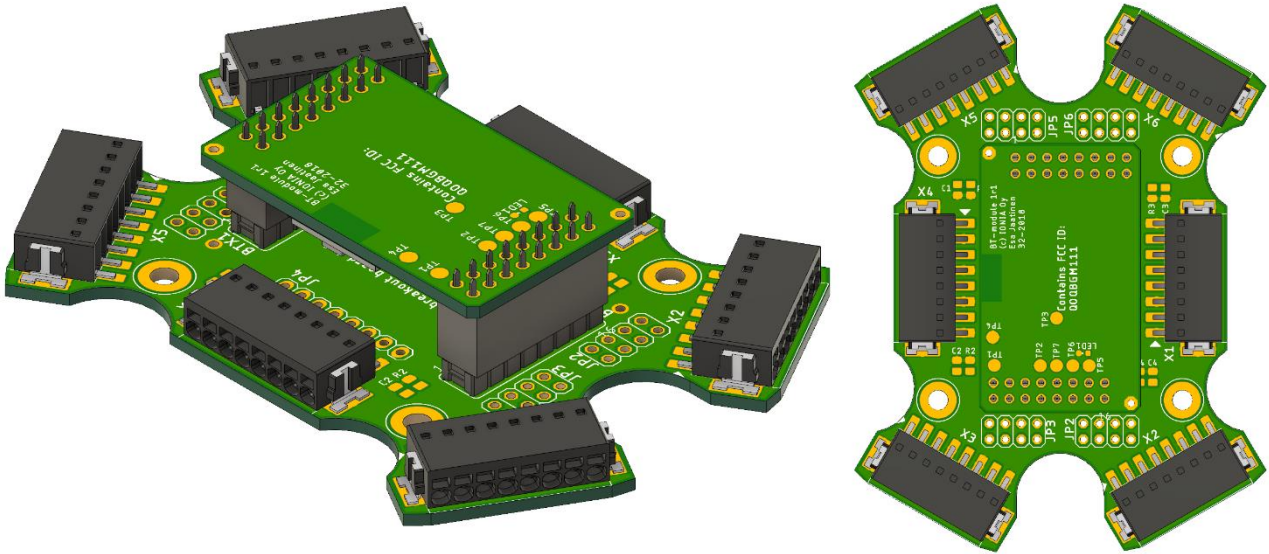

Figure 9 : The reference breakout board for the wireless button plate module
The design and cad files, together with more information about the reference board will be provided as separate documents. The reference board is shown in Figure 9. The reference breakout board has been designed so that it fits inside the standard 70mm bolt circle.
- Chapter 4. Updated the Figure 9